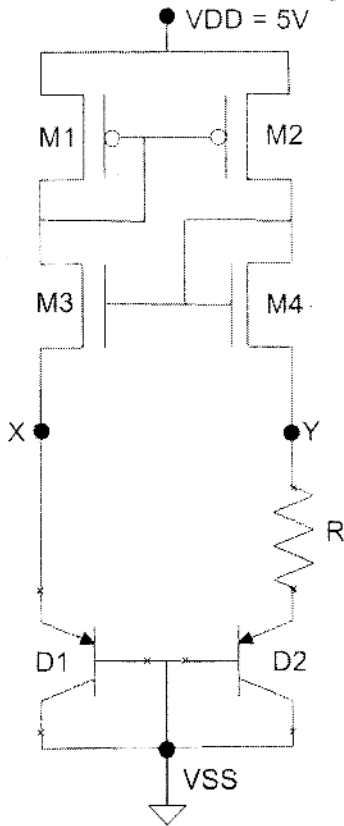

Fig. 6.1 Base-emitter area of D2 is ten times that of D1
6. The circuit of Fig. 6.1 produces a voltage at node Y that is proportional to absolute temperature (PTAT).